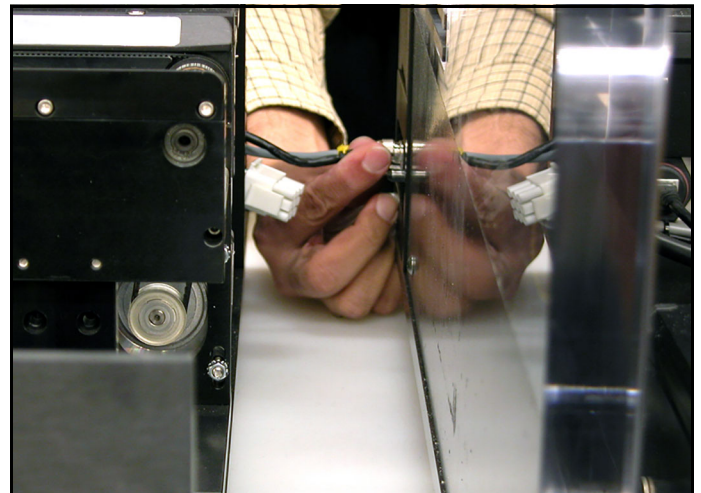

Figure 4
4. Align modules and connect cables to it's corresponding receptacle (Figure 4).